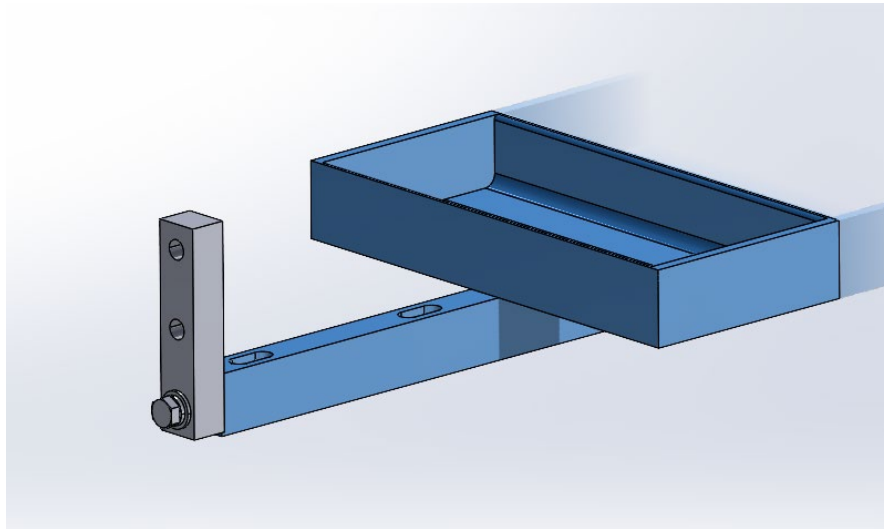

Figure 14: Calibration Tray
5. Attach the Figure 14 assembly to the load cell using M12x45 bolts, M12 nut, flat washer and spring washer. Ensure the calibration assembly is positioned beneath the belt idler frame.